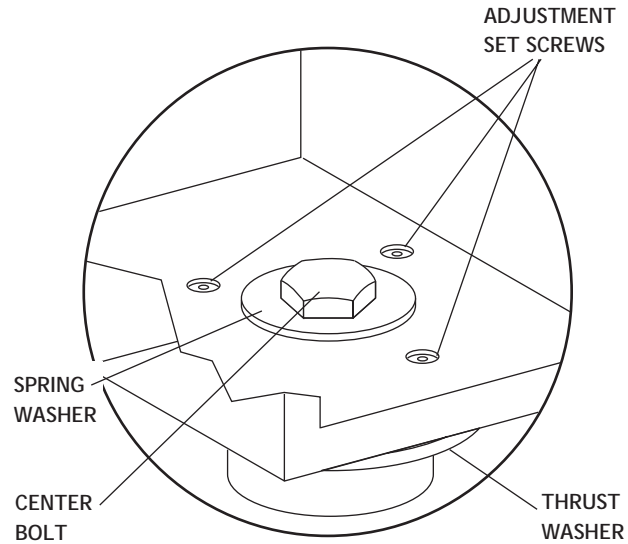

Figure 8. Leveling Adjustment
3. Using a 3/16-inch hex key, adjust the three setscrews (*see Figure 8*) until the unit is level. Make sure the setscrews are adjusted so all three contact the thrust washer located between the bottom of the post box and the unit mount.
4. Tighten the center bolt so it is snug and the spring washer (*see Figure 8*) is flattened. When properly adjusted, the post box will be level and will not wobble.